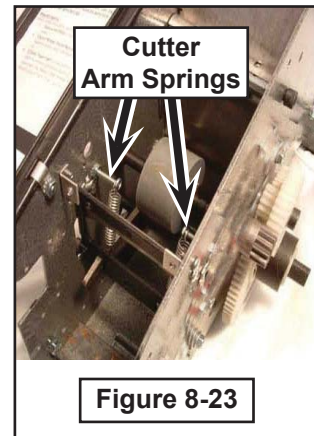

Figure 8-23
7. Remove cutter arm springs from the screws they rest on (Figure 8-23).